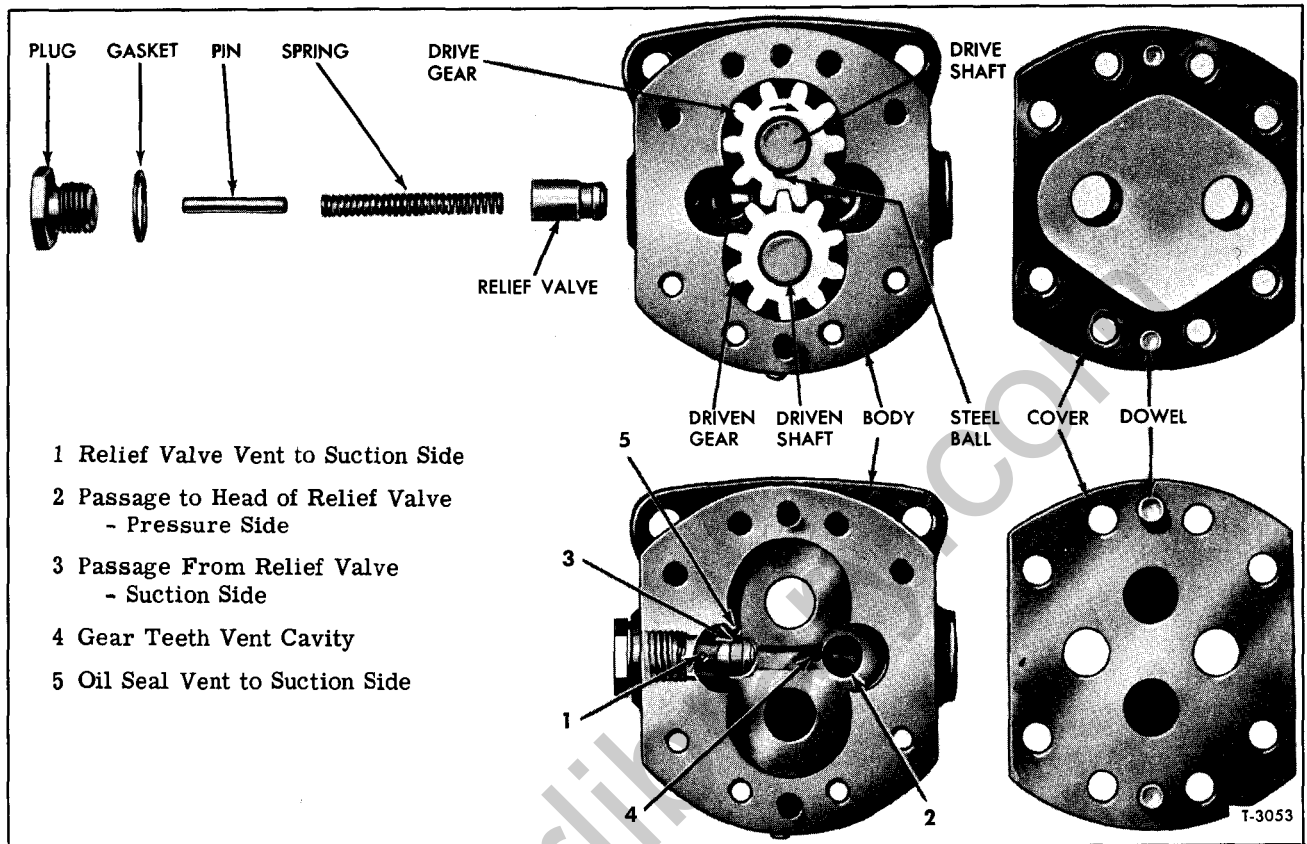

Figure 24—Fuel Pump Valving and Rotation (Right Shown)
The fuel pump, illustrated in figures 24 and 25, is the positive displacement gear-type. The pump circulates fuel from the fuel supply tank to the fuel injectors. The pump circulates the excess
A spring loaded relief valve, incorporated in the pump body, normally remains in the closed position, operating only when pressure on the outlet side (to secondary fuel filter) becomes excessive due to a plugged filter or fuel line. The valve will open at a pressure of approximately 65 to 75 pounds per square inch, allowing fuel to return through a passage in the body from the pressure side to suction side of the pump. A small hole in the pump body allows fuel oil back of the relief valve to bleed into the gear compartment. Otherwise, the fuel might become trapped and prevent the valve from opening (refer to fig. 24).
2. Without removing the pump from the engine, unscrew valve screw (fig. 24), then remove spring, pin, and valve. Wash parts and blow out valve cavity with compressed air. Check parts for scoring or damage. Install valve parts, if satisfactory.